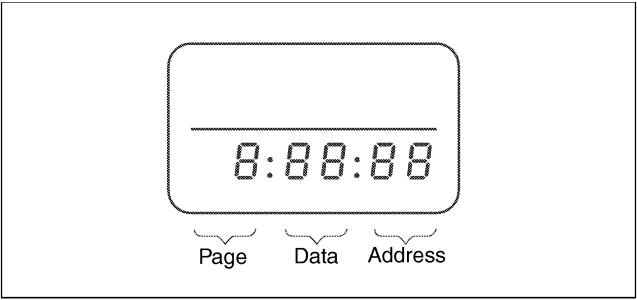

Fig. 5-4-1
- 2) Set the HOLD switch of the adjustment remote commander to “HOLD” (SERVICE position). If it has been properly connected, the LCD on the adjustment remote commander will display as shown in Fig. 5-4-1.